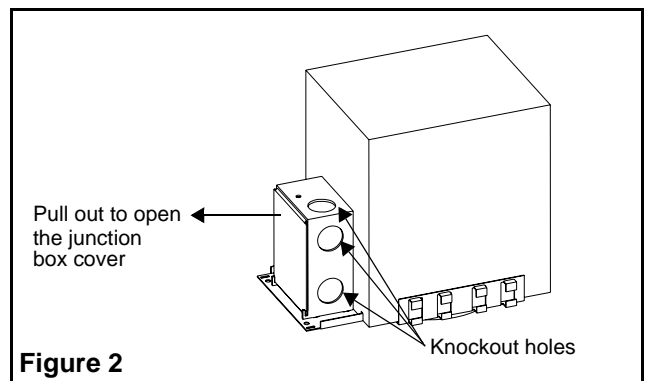

Figure 2
3. Remove the junction box cover by releasing the spring. Break the appropriate knockout for AC supply on the back box (see fig. 2).